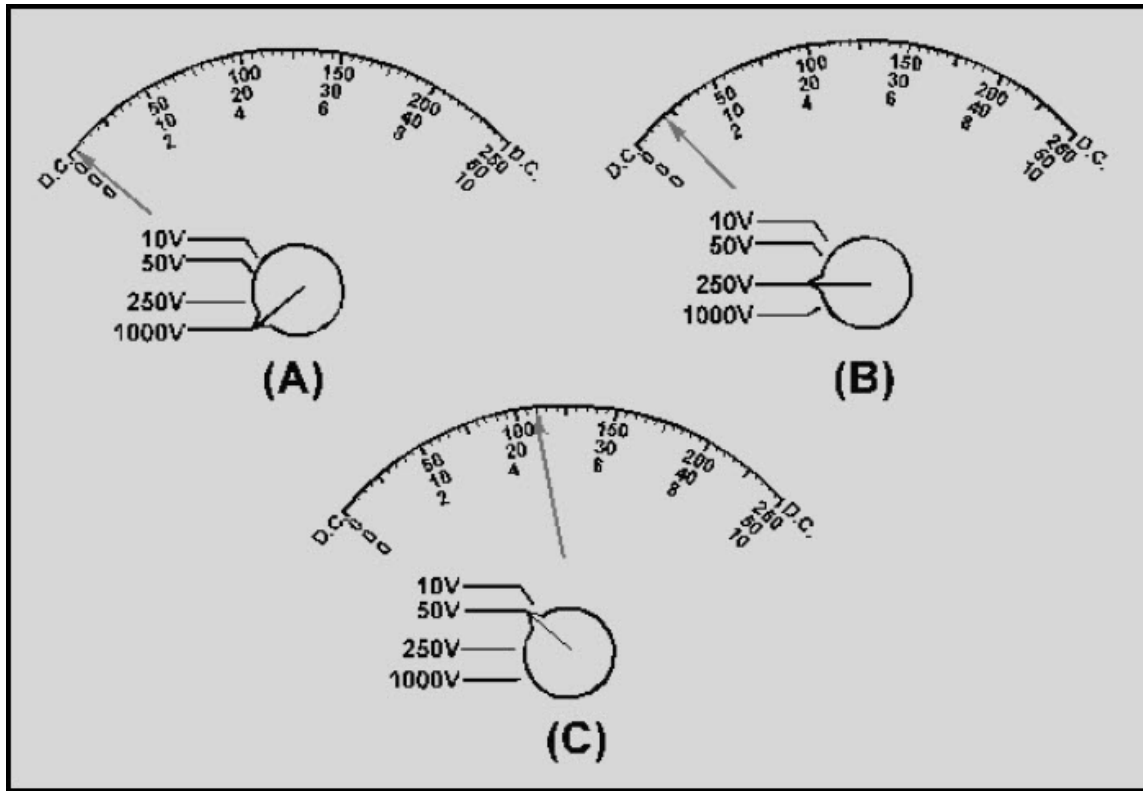

Figure 1-30 Reading a voltmeter at various ranges
The current through the meter movement is determined by the voltage being measured. If the voltage measured is higher than the range of the voltmeter, excess current will flow through the meter movement and the meter will be damaged. Therefore, you should always start with the highest range of a voltmeter and switch the ranges until a reading is obtained near the center of the scale. Figure 1-30 illustrates these points.
In figure 1-30(A) the meter is in the 1000-volt range. The pointer is barely above the 0 position. It is not possible to accurately read this voltage. In figure 1-30(B) the meter is switched to the 250 volt range. From the pointer position it is possible to approximate the voltage as 20 volts. Since this is well below the next range, the meter is switched, as in figure 1-30(C). With the meter in the 50-volt range, it is possible to read the voltage as 22 volts. Since this is more than the next range of the meter (10 volts), the meter would not be switched to the next (lower) scale.